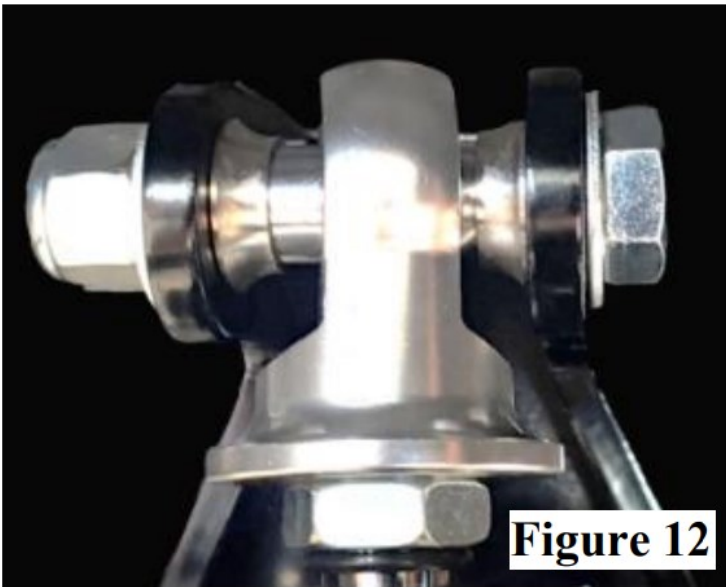

Figure 12
24. Install the upper shock connection with one .250" beveled spacer on each side of the shock eyelet with the smaller beveled edge facing the shock bearing. **(Figure 12)** Secure to the crossmember using 1/2" X 3" hardware with two washers and nylock nut. Torque to 50 lb. ft.